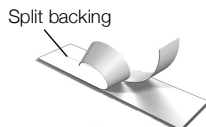

Figure 6
- 4 Remove the backing from the label to expose the adhesive, and then attach the label. See Figure 6.